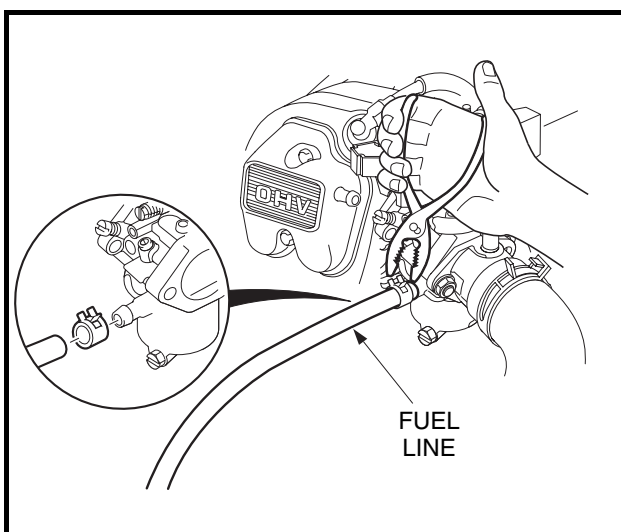

Figure 16-12 Fuel Line
- 4.4. Loosen the hose clamp and then disconnect the fuel line from the carburetor. To prevent spilling fuel, the disconnected end of the line can be plugged with a 1/4-inch bolt (**Figure 16-12, Page 16-8**).